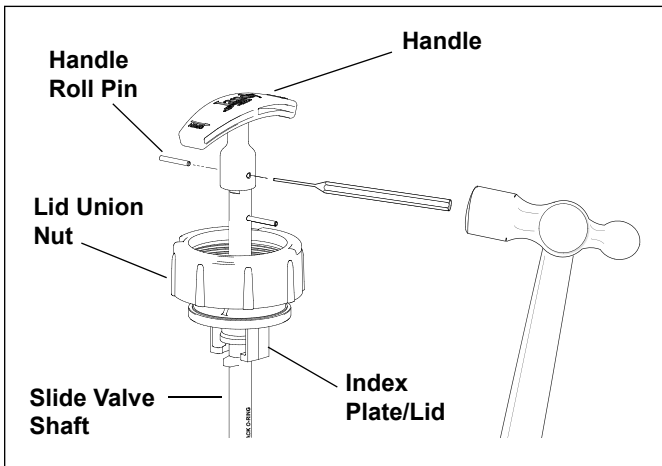

Figure 3. Remove Handle Roll Pin - Top Half of Slide Valve Shaft Shown
- Using a punch and a ball peen hammer, tap the existing roll pin out of the slide valve handle (see Figure 3). Remove the handle.